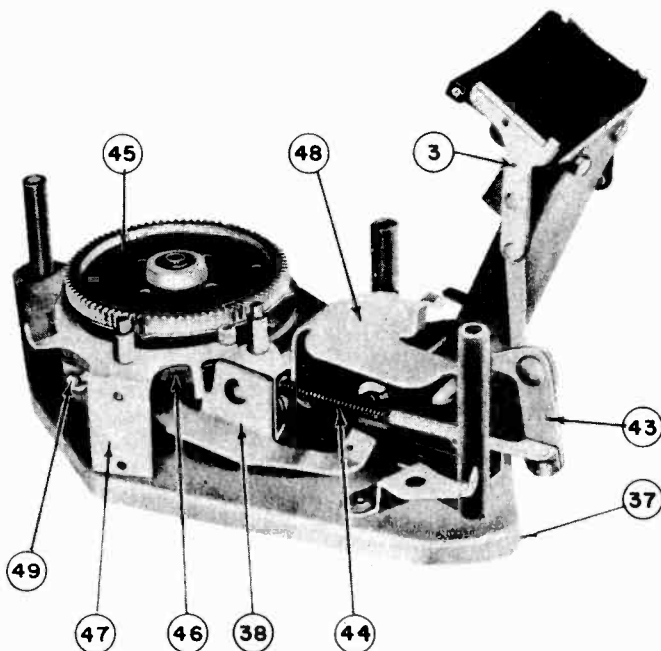

FIG. 7 - PARTS LOCATION -- SUB PLATE ASSEMBLY
- 4 - Knife edge of Raising Lever (Illus. 38 Fig. 7).
- 1 - Teeth of Main Cam Actuating Gear (Illus. 45 Fig. 7).
- 2 - Track of Main Cam Gear (Illus. 46 Fig. 7).
- 4 - Raising Lever Bracket bearing surfaces (Illus. 38 Fig. 7).
In the event that it becomes necessary to replace any of the major parts in the sub-plate assembly (Fig. 7) the entire assembly should first be removed from the main plate.